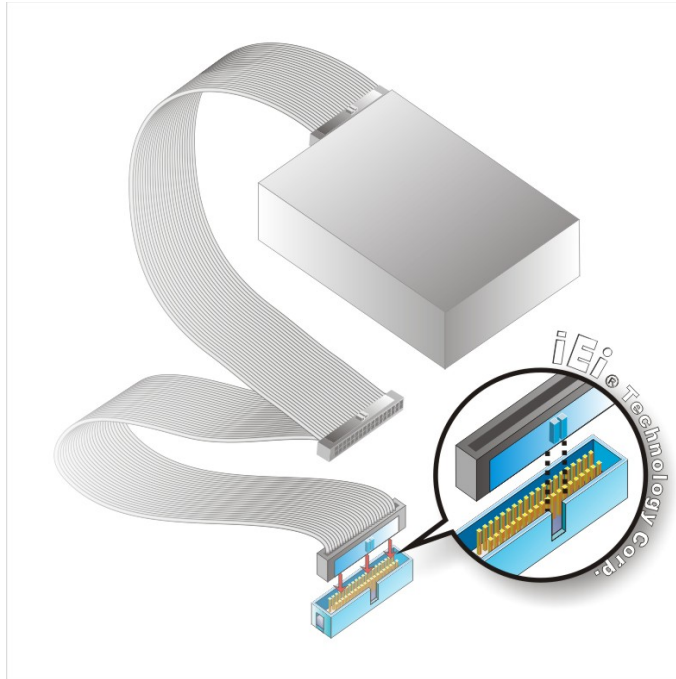

Figure 5-10: IDE Cable Connection
- Step 2:** **Insert the connector.** Connect the IDE cable connector to the onboard connector. See **Figure 5-10**. A key on the front of the cable connector ensures it can only be inserted in one direction.